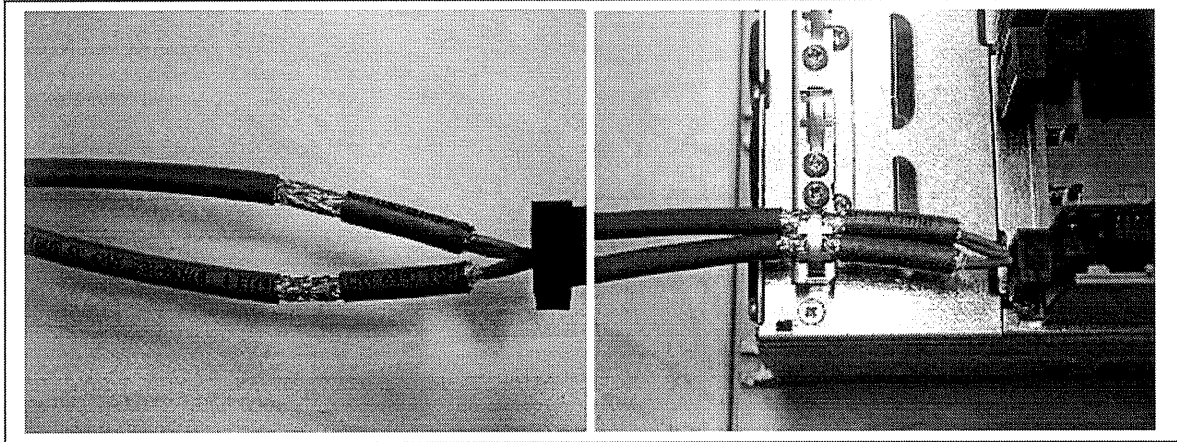

Figure 3-5. Grounding the Data Cables
4. Strip the cable at such a distance from the terminal that you can fix it to the frame with the grounding clamp. See Figure 3-5.